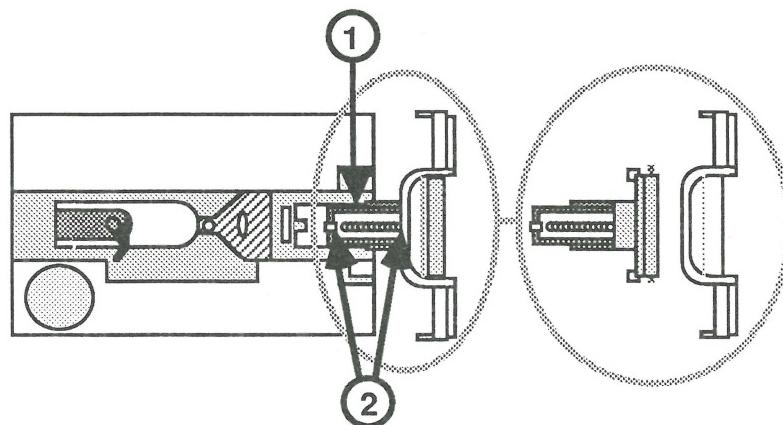

FIGURE 10
1. Install the new door, making sure the side edges of the door fit into the grooves on the metal carriage (Figure 10, #1) and the door springs fit over the supporting tabs (Figure 10, #2).